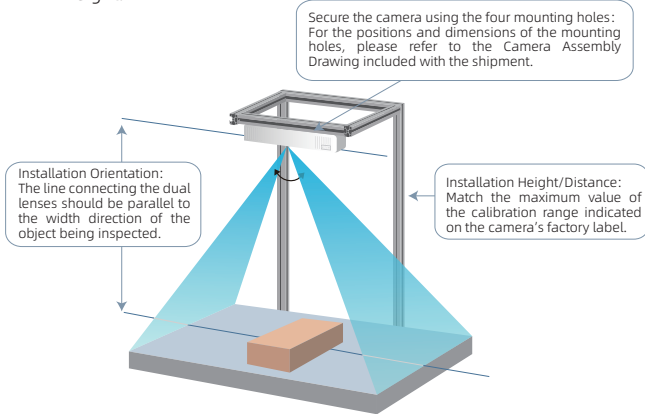

Figure 1 Static Scenario Camera Installation Diagram
Step 1 According to the actual situation, mount the camera in the designated position. Installation diagrams for static and dynamic scenarios are shown in *Figures 1 and 2*, respectively. For the relative positions and diameters of the mounting holes, please refer to the Camera Assembly Drawing.